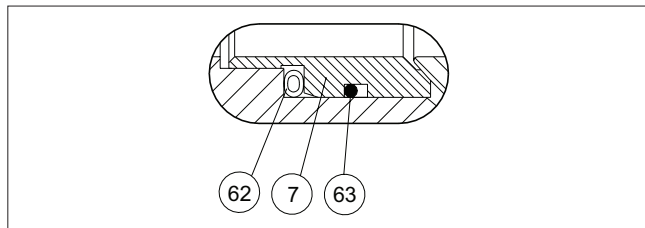

Fig. 10 S seat
- Place the O-ring (63) into the groove in the seat. See Figures 10 and 11.